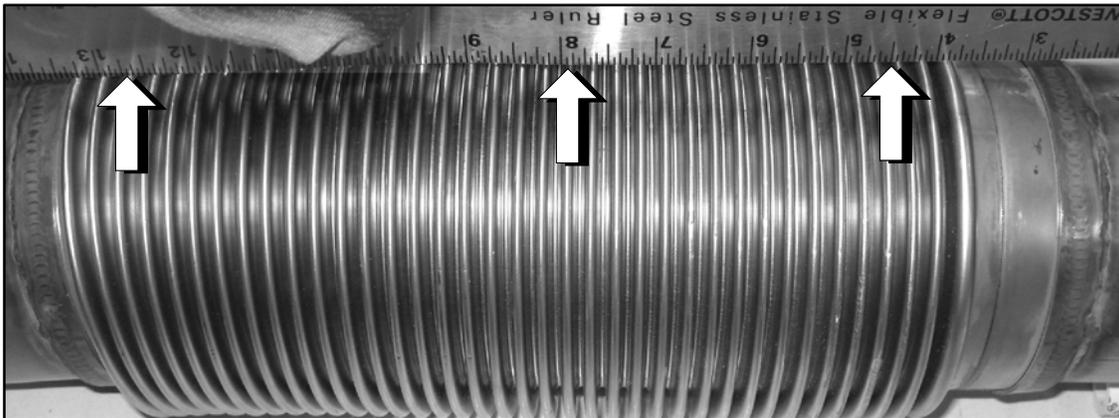

Figure 6.
9. Position a straight edge over the bellows at multiple positions around the circumference to ensure there is no deformation or gaps (refer to Figure 6) prior to tightening the clamps. Orient as required to achieve no deformation or gaps.